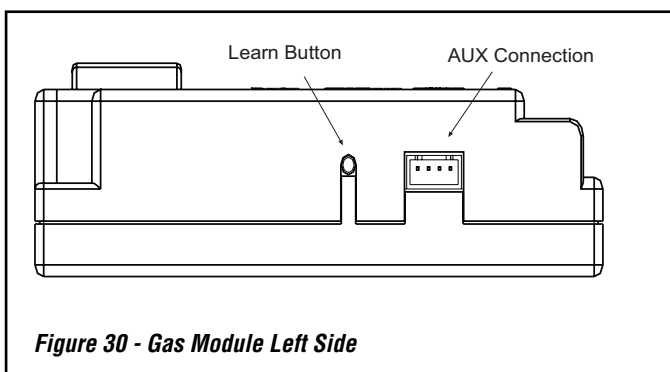

Figure 30 - Gas Module Left Side
- To program the module (make sure the system has power), locate the learn button (**Figure 30**) on the module. Locate the metal shield that is covering the module and remove the screw on top. Use a small thin object like a paper clip (not sharp points) to press and release the learn button. There will be a beep sound from the module. Then press any button on the remote transmitter. Once the module's internal receiver accepts the transmitter code, there will be a series of confirming beeps.